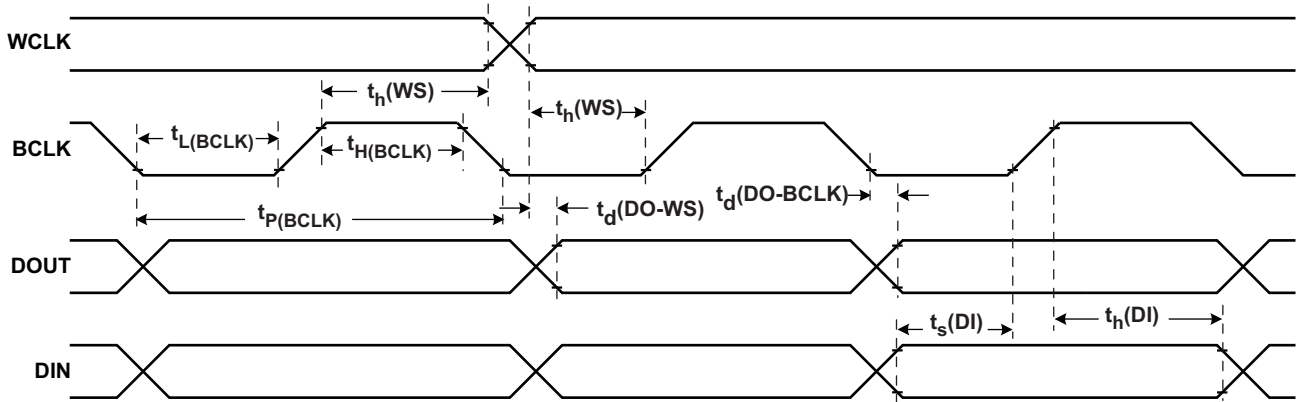

Figure 3-2. I²S/LJF/RJF Timing in Slave Mode
3.9 TYPICAL TIMING CHARACTERISTICS (see Figure 3-2)